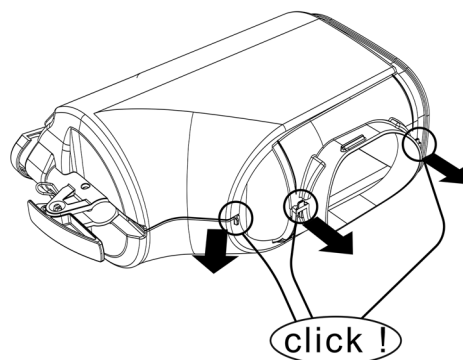

figure 16
- 1 Click open the two parts. (see figure 16).